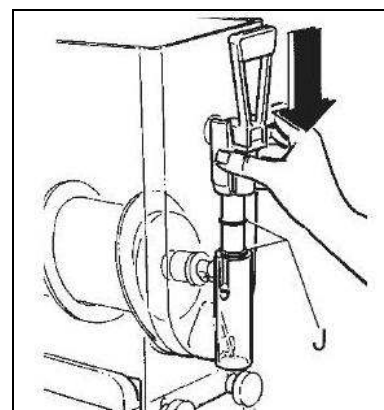

Fig. 19
- Reassemble the parts of the dispensing tap, making sure that the gaskets (J) are lubricated with Vaseline grease so that the tap slides smoothly back into its fixed position, until it's completely inserted (see figure 19).